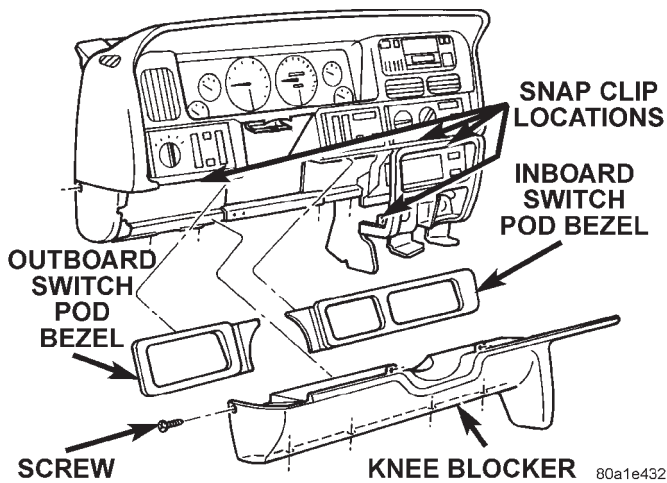
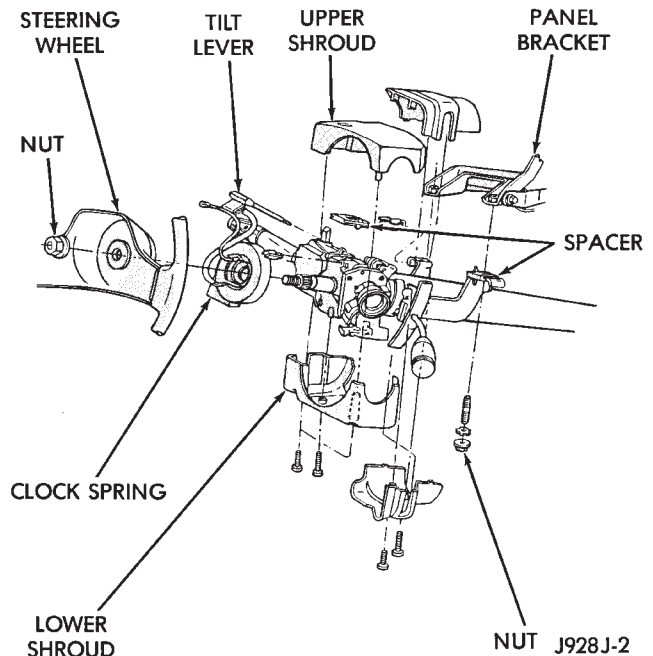

Fig. 13 Steering Column Opening Cover/Knee Blocker Remove/Install
Fig. 14 Steering Column Shrouds Remove/Install - Typical
- (1) Disconnect and isolate the battery negative cable.
- (2) If the vehicle is so equipped, remove the tilt steering column lever.
- (3) Using a trim stick or another suitable wide flat-bladed tool, pry gently around the perimeter edges of both instrument panel switch pod bezels to release the snap clip retainers. Remove both bezels from the instrument panel.
- (4) Remove the one screw on each side of the steering column that secures the upper edge of the steering column opening cover/knee blocker to the instrument panel (Fig. 13).
- (5) Remove the one screw that secures the steering column opening cover/knee blocker to the outboard end of the instrument panel.
- (6) Remove the four screws that secure the lower edge of the steering column opening cover/knee blocker to the lower instrument panel reinforcement.
- (7) Using a trim stick or another suitable wide flat-bladed tool, gently pry the edges of the steering column opening cover/knee blocker away from the instrument panel at the snap clip retainer locations (Fig. 13).
- (8) Remove the steering column opening cover/knee blocker from the instrument panel.
- (9) Remove both the upper and lower shrouds from the steering column (Fig. 14).